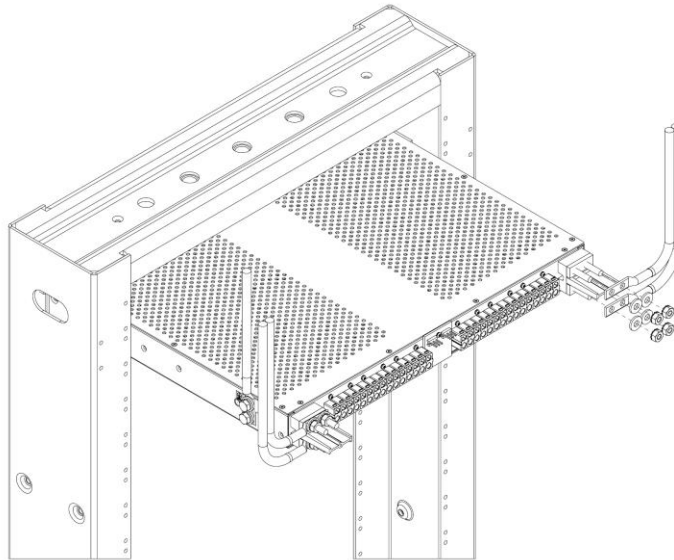

Fig. 2-5: Input lugs
14. If required, lightly coat antioxidant on lugs and input BATT and RTN terminals and then connect lugs to input terminals, as shown in Fig. 2-5.